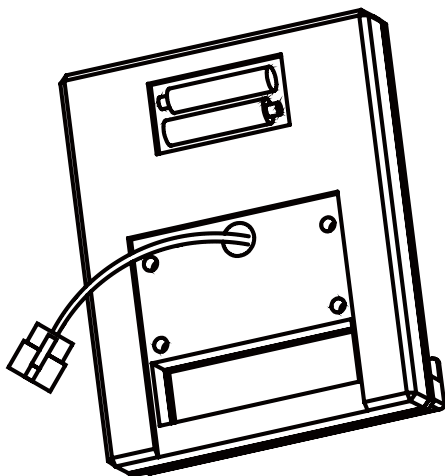

Figure 13
13. Replace the battery, remove the cover plate on the back of the electronic watch, and replace it. As shown in Figure 13.